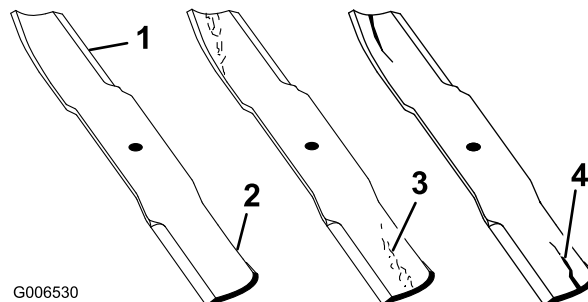

Figure 44
1. Inspect the cutting edges (Figure 44).
2. Inspect the blades, especially the curved area (Figure 44).
Note: If you notice any damage, wear, or a slot forming in this area (item 3 in Figure 44), immediately install a new blade.